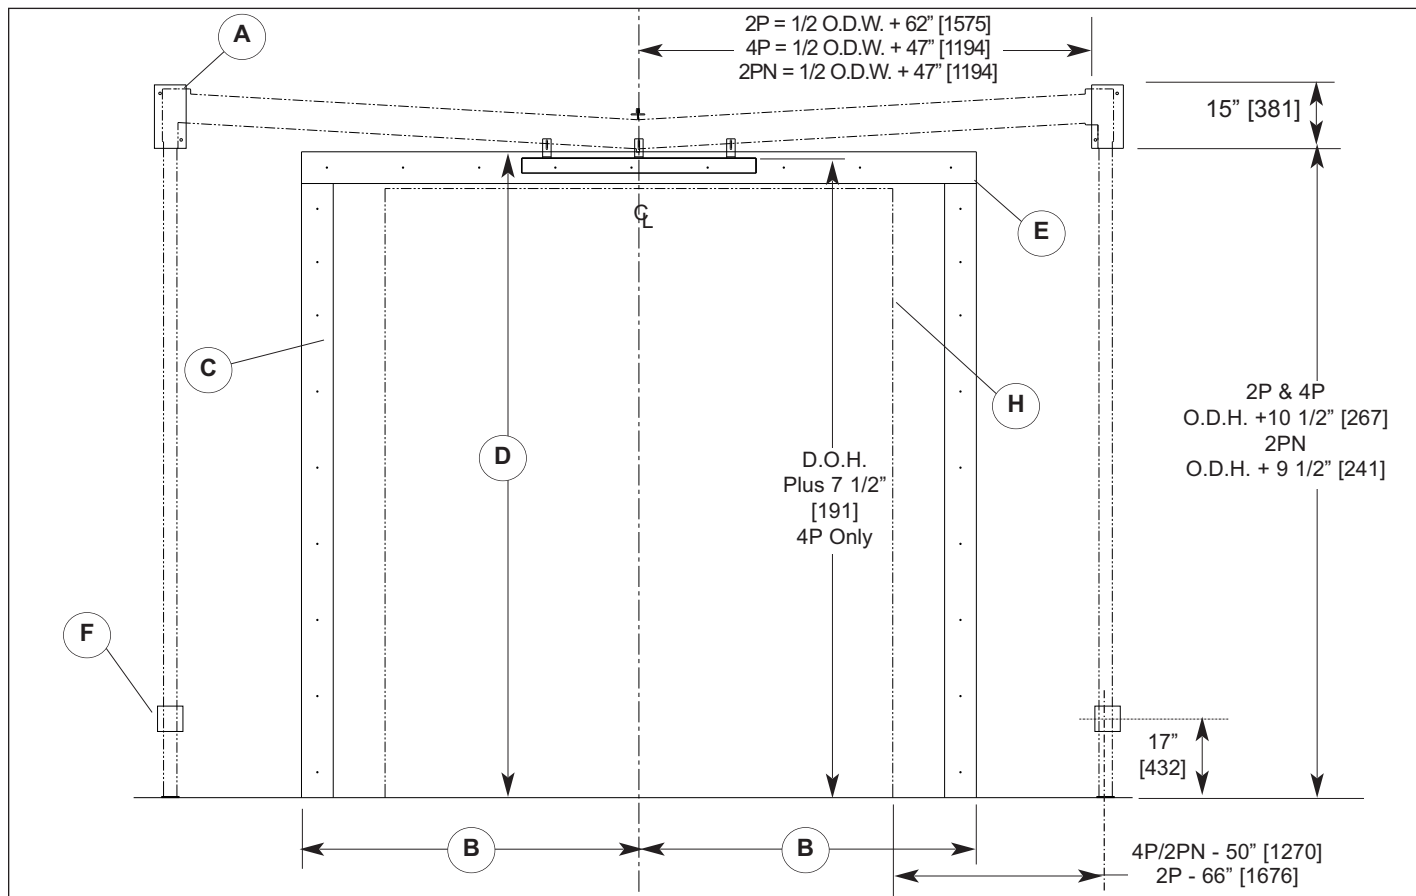

Figure 5.1
- Prior to raising the header, attach 15" [381] poly piece(s) (A) to header bracket(s) with #10 x 1" [25] screws provided.
- Snap a chalk line at (B) and repeat for opposite side, **Figures 5.1 & 5.2**.